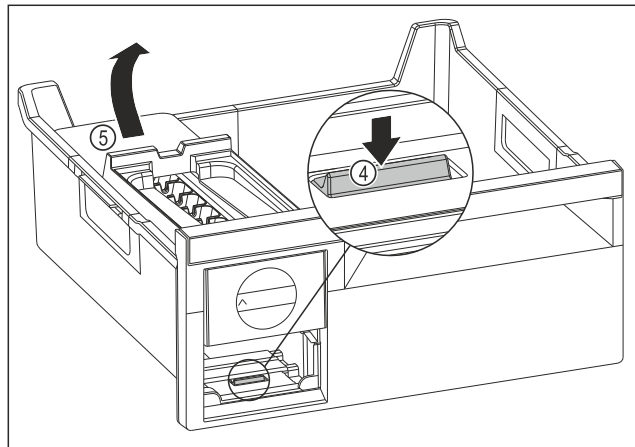

Fig. 188
- ▶ Removing the EasyTwist-Ice body: Use your finger to push the tab Fig. 188 (4) down and use your other hand to lift the EasyTwist-Ice body Fig. 188 (5) from behind at the same time.